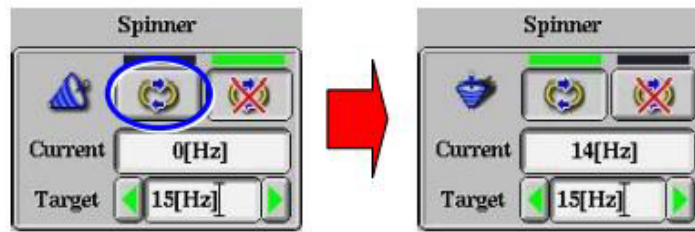

Fig 2.2: Spinner Icon
- iii. After the sample has been loaded, click on  to turn on the spinner (Refer to Fig. 2.2)